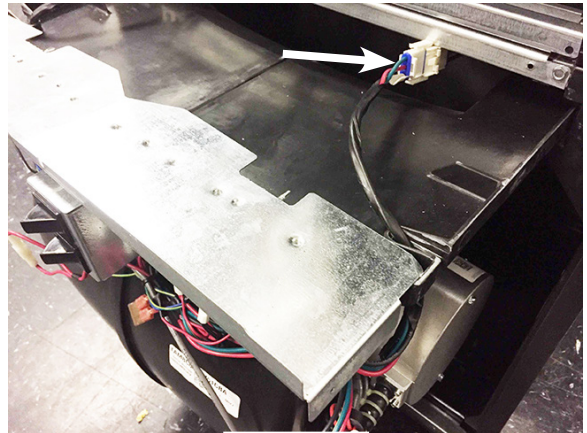

FIGURE 8
7. Disconnect the 3 pin connector between the blower motor and the power supply. Pull the harness out of the blower deck slot and back in front of the blower. See Figures 8 and 9.